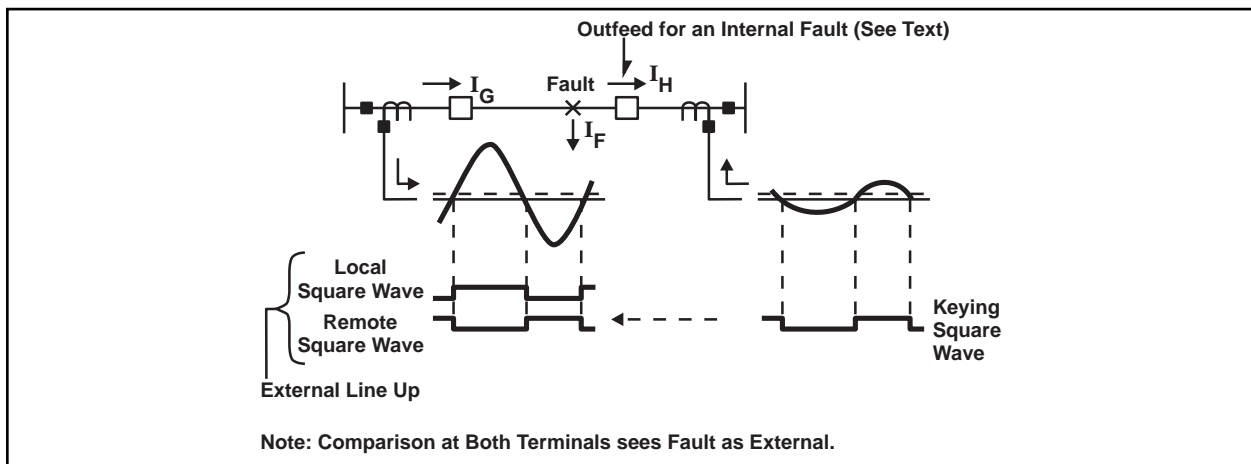

Figure 2-8. Conventional Phase Comparison Response to an Outfeed Condition Block Tripping.
To generate the local and keying square waves, conventional phase comparison systems use thresholds equivalent to (or very near) the zero axis. As a result, an internal fault with outfeed looks like an external fault to those systems (see Figure 2-8). The offset keying technique permits the relay system to trip for internal faults with outfeed current out at one terminal. While the outfeed condition is very unusual, it presents difficult problems to the great majority of pilot relaying systems when it does occur. Outfeed can occur in any of the following cases:
This relationship is illustrated in Figure 2-8, where I_G equals I_F plus I_H . While the two terminal currents may have any angular relationship with one another, most outfeed conditions display a nearly out-of-phase relationship. The out-of-phase condition illustrated is the most difficult case for phase comparison, as well as the most common outfeed condition.
Output trip signals are supervised by an arming input and a number of security checks (see Figure 2-8). Phase arming is performed by a current rate-of-change detector that responds to sudden increases, decreases, or angular shifts in current. It operates on current changes of 0.5 A or more, with an operating time of 2ms. Ground
Security checks to comparison AND (see Figure 2-8) include (1) low channel signal blocking, (2) lockout for sustained low channel signal, (3) channel noise clamp, and (4) receive guard block. For the phase subsystems, a trip signal occurs if comparison AND has an output for more than 3ms (4ms for the ground subsystem).